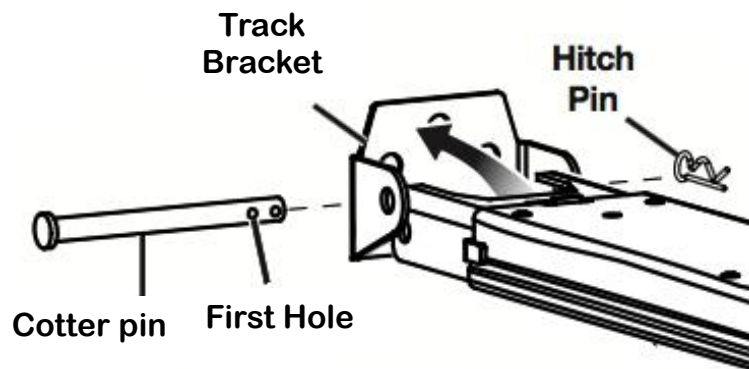

FIG. 6
2. Mount the steel track to the bracket. Align the holes in the bracket and the holes in the track, then insert the  $\phi 8 \times 90$  cotter pin. Secure by installing the 1.8×38 hitch pin into the two holes of the cotter pin (FIG. 6)